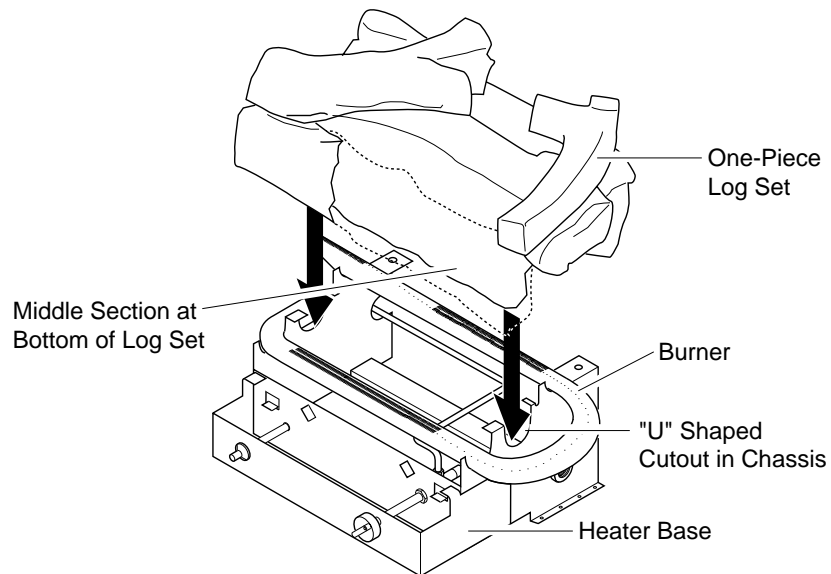
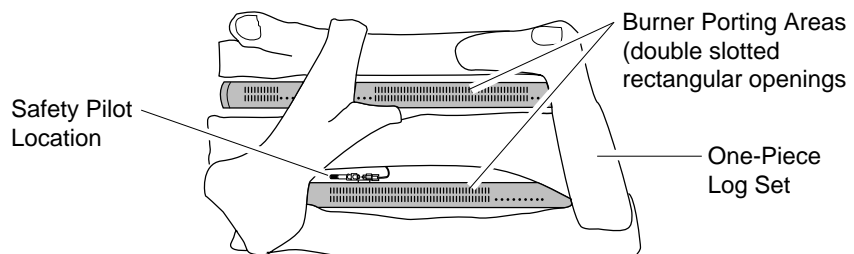

Figure 15 - Installing One-Piece Stove Log Set
Figure 16 - Top View of One-Piece Log Set on Gas Log Heater
- Set one-piece log on heater base as shown in Figure 15. Make sure middle section at bottom of log is seated into "U" shaped cutout in center of heater base. Log will fit securely on base. **IMPORTANT:** Make sure log does not cover any burner ports and does not touch the stove cavity (see Figure 16).
6. With control knob pressed in, press and release ignitor button. This will light pilot. The pilot is attached to the burner (see Figure 16, page 14). If needed, keep pressing ignitor button until pilot lights.